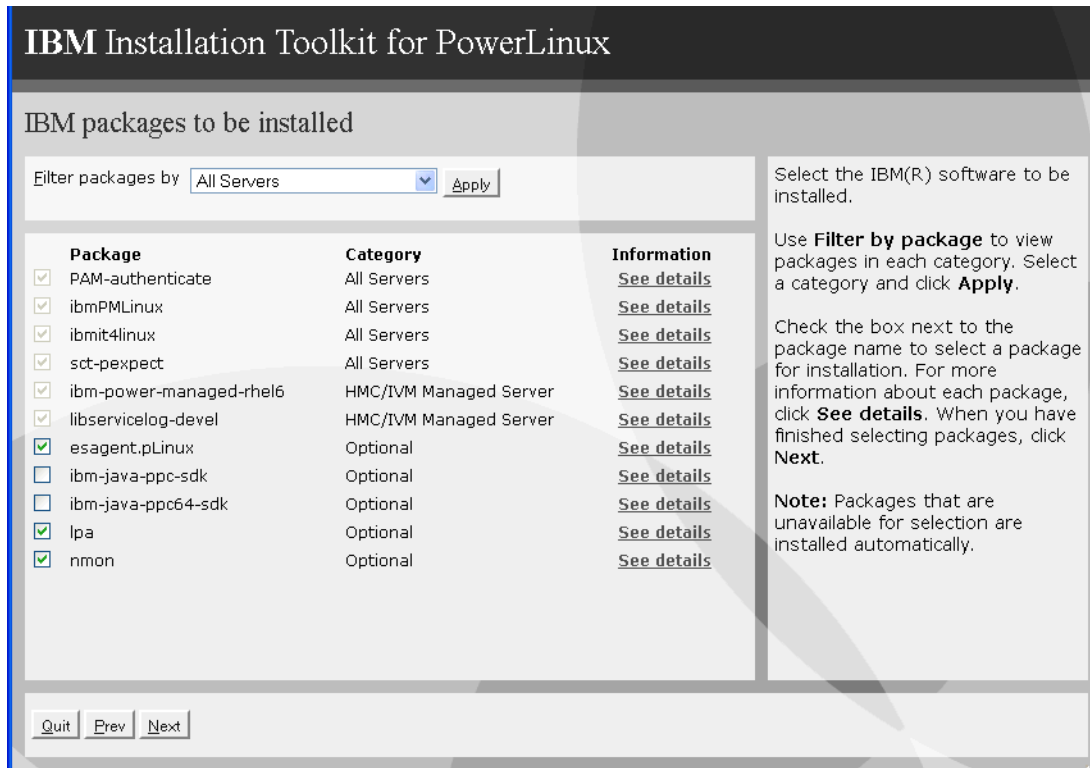

Figure 12-19 IBM packages to be installed
23. As shown in Figure 12-19, you select which packages to install. The following pack options are available: